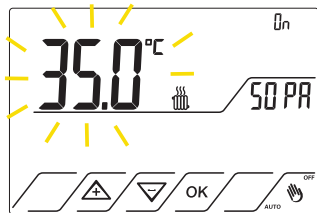

Fig.46
11.4.4 Press  $\triangle$  or  $\nabla$  to set the value in the range between +2 and + 60°C. Fig.46